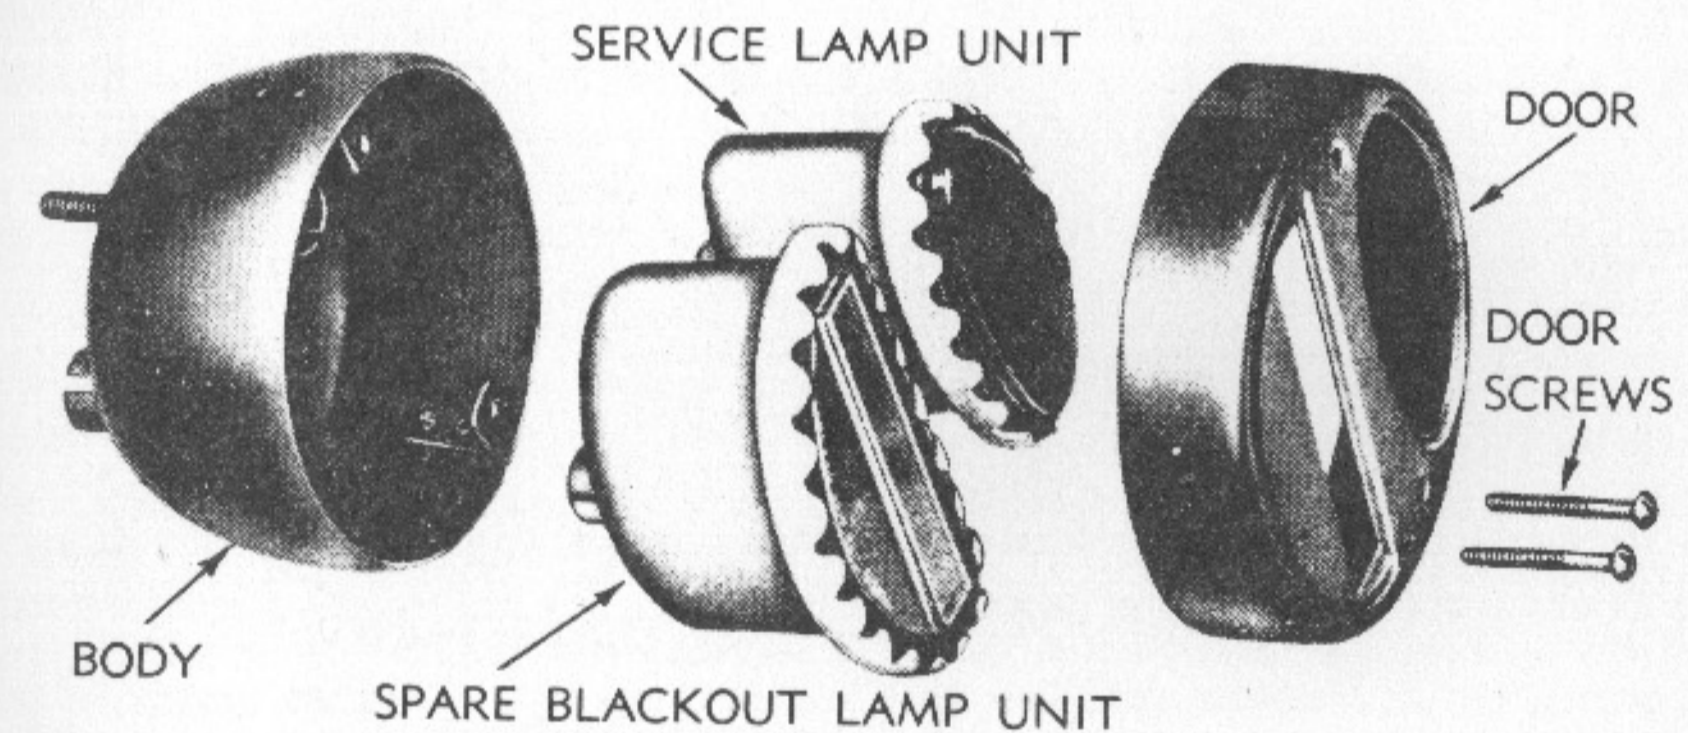

Figure 87—Service Taillight, Disassembled
a. **Service Taillight** (fig. 87). The service taillight is mounted on the left side of the mounting bracket. The upper socket in light housing is for service taillight and stop light. The service stop light does not operate in daytime when ignition only is on. Lamp is in a unit.